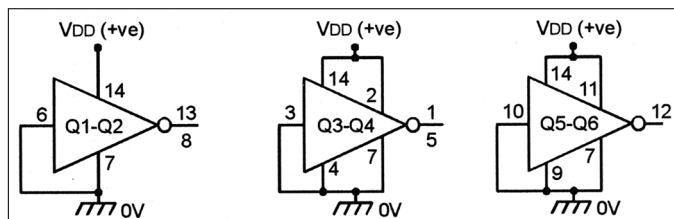

FIGURE 12
The 'usage' rules of the 4007UB are quite simple. In any specific application, all unused elements of the device must be disabled; complementary pairs of MOSFETs can be disabled by connecting them as standard CMOS inverters and tying their inputs to ground, as shown in Figure 12; in-
■ FIGURE 12: INDIVIDUAL 4007UB COMPLEMENTARY MOSFET PAIRS CAN BE DISABLED BY CONNECTING THEM AS CMOS INVERTERS AND GROUNDING THEIR INPUTS.